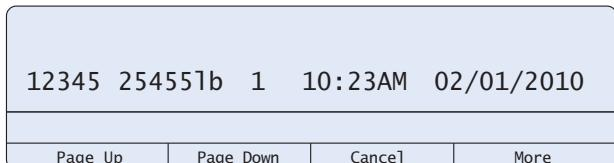

Figure 7-2. Truck Register Display
The Truck Regs display is shown by pressing the **Truck Regs** softkey in weighing mode. The display contains an alphabetical list of stored truck IDs, weigh-in weights (in primary units), and the time and date of the weigh-in transaction (see Figure 7-2).
2. If truck ID is known, press the **Weigh Out** softkey, enter the ID, and press the **enter** key. If ID is not known, press the **Truck Regs** softkey to view list of stored IDs (see Figure 7-2 on page 54). Scroll to the correct truck ID, note the ID number, then press the **Cancel** softkey to return to the weight display. From the weight display, press **Weigh Out**, key in the ID, then press the **enter** key.